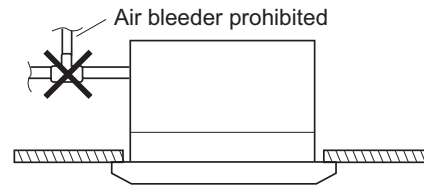

Fig. 2-47
- Do not install an air bleeder as this may cause water to spray from the drain pipe outlet. (Fig. 2-47)